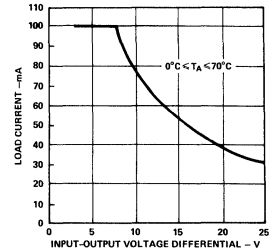

Figure 13. Maximum Load Current vs. Regulator Input-Output Voltage Differential
**Bridge Excitation (2B31):** The adjustable bridge excitation is specified to operate over a wide regulator input voltage range (+9.5V to +28V). However, the maximum load current is a function of the regulator circuit input-output differential voltage, as shown in Figure 13. Voltage output is short circuit protected and its temperature coefficient is  $\pm 0.015\% V_{OUT}/^\circ C$  max ( $\pm 0.003\% /^\circ C$  typ). Output temperature stability is directly dependent on a temperature coefficient of a reference and for higher stability requirements, a precision external reference may be used.